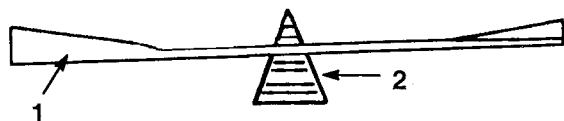

Figure 21
2. Check the balance of the blade by putting it on a blade balancer (Fig. 21). If the blade stays in a horizontal position, the blade is balanced and can be used. If the blade is not balanced, file some metal off the back side of the blade. Repeat this procedure until the blade is balanced.